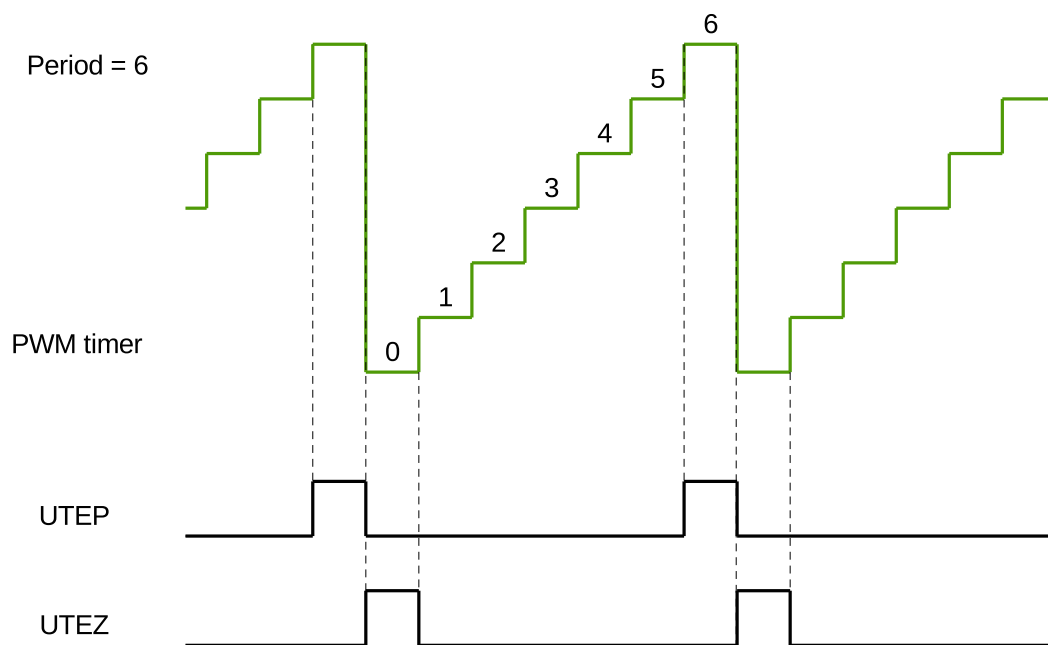

Figure 31.3-9. UTEP and UTEZ Generation in Count-Up Mode
Figures 31.3-9 to 31.3-11 show the timing waveforms of U/DTEP and U/DTEZ.
1. UTEP and UTEZ do not happen simultaneously. When the PWM timer is in Count-Up Mode, UTEP will always happen one cycle earlier than UTEZ, as demonstrated in Figure 31.3-9, so their action on PWM signals will not interrupt each other. When the PWM timer is in Count-Up-Down Mode, UTEP will not occur.